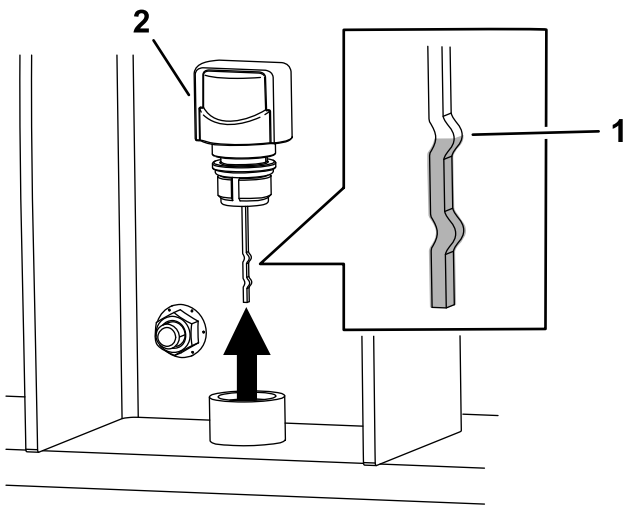

Figure 33
4. Clean around the breather cap (Figure 33).
5. Remove the breather cap (Figure 33).
7. Remove the dipstick and verify that the fluid is at the upper notch (Figure 33). Install the breather cap.
**Note:** The fluid level should be at the upper notch on the dipstick on the breather cap (Figure 33)